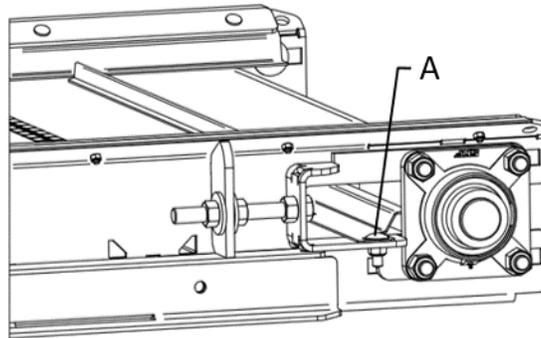

Figure 61 — Adjusting the Conveyor Scraper
1. Loosen the bolts on each side of the conveyor (Figure 61, A).
3. Tighten the bolts (Figure 61, A).